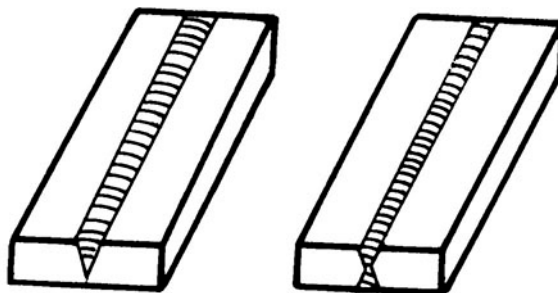

Figure 2-18. Single and double “V” butt joints.
2. Prepare the damaged area (crack, break, or tear) by cutting a channel in the shape of a "V." The use of a single or double "V" joint (fig. 2-18) is dictated by the material's thickness and ability to get to the backside of the repair area.